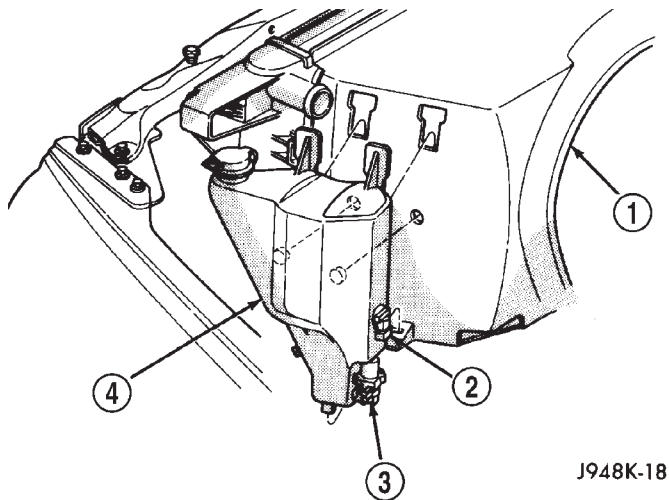

Fig. 3 Washer Reservoir
(1) Disconnect and isolate the battery negative cable.
(2) Disconnect the headlamp and dash wire harness connector for the washer pump/motor from the motor connector receptacle (Fig. 3).
(1) Install a new rubber grommet seal into the washer pump mounting hole in the washer reservoir. Always use a new rubber grommet seal on the reservoir.
(2) Position the barbed inlet nipple of the washer pump to the rubber grommet seal in the reservoir.
(3) Press firmly and evenly on the washer pump until the barbed inlet nipple is fully seated in the rubber grommet seal in the washer reservoir mounting hole.
(4) Reconnect the washer hose to the barbed outlet nipple of the washer pump.
(5) Reconnect the headlamp and dash wire harness connector for the washer pump/motor unit to the motor connector receptacle (Fig. 3).
(6) Refill the washer reservoir with the washer fluid drained from the reservoir during the removal procedure.
(7) Reconnect the battery negative cable.